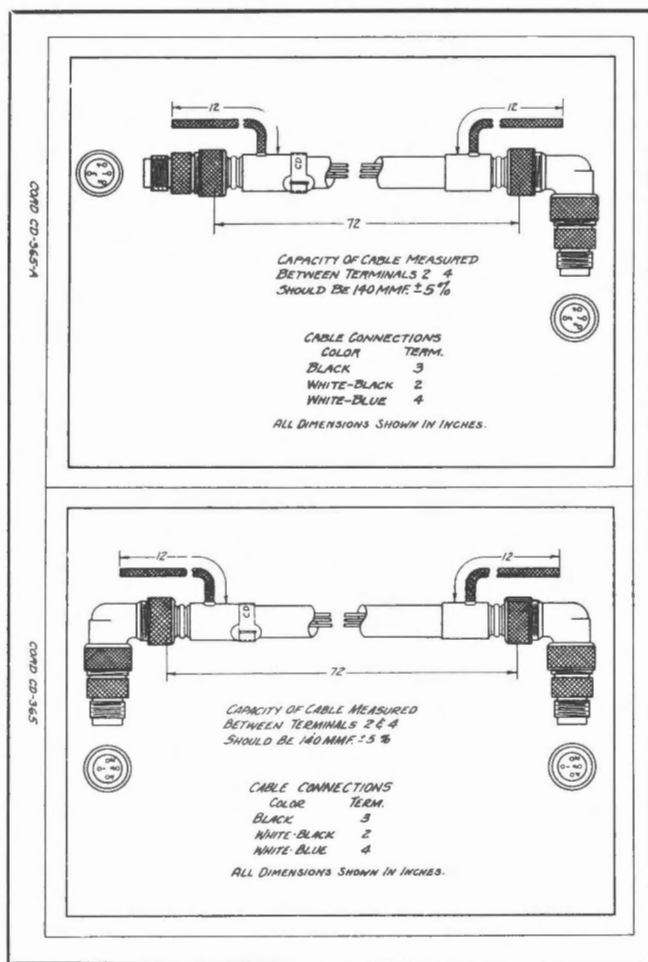

Figure 2-11. Cord CD-365 and CD-365-A—
(See figure 2-11.)
c. Cord CD-365, CD-365-A, CD-365-B, CG-42/ARN or CG-95/ARN, (use the one most convenient for the installation) connects Radio Compass Units ★R-5/ARN-7 to the loop. *Do not change the length of this cord.* If it is too long, coil the extra length wherever convenient. If it is too short, request a longer cord through the proper channels. (See fig. 2-11.)